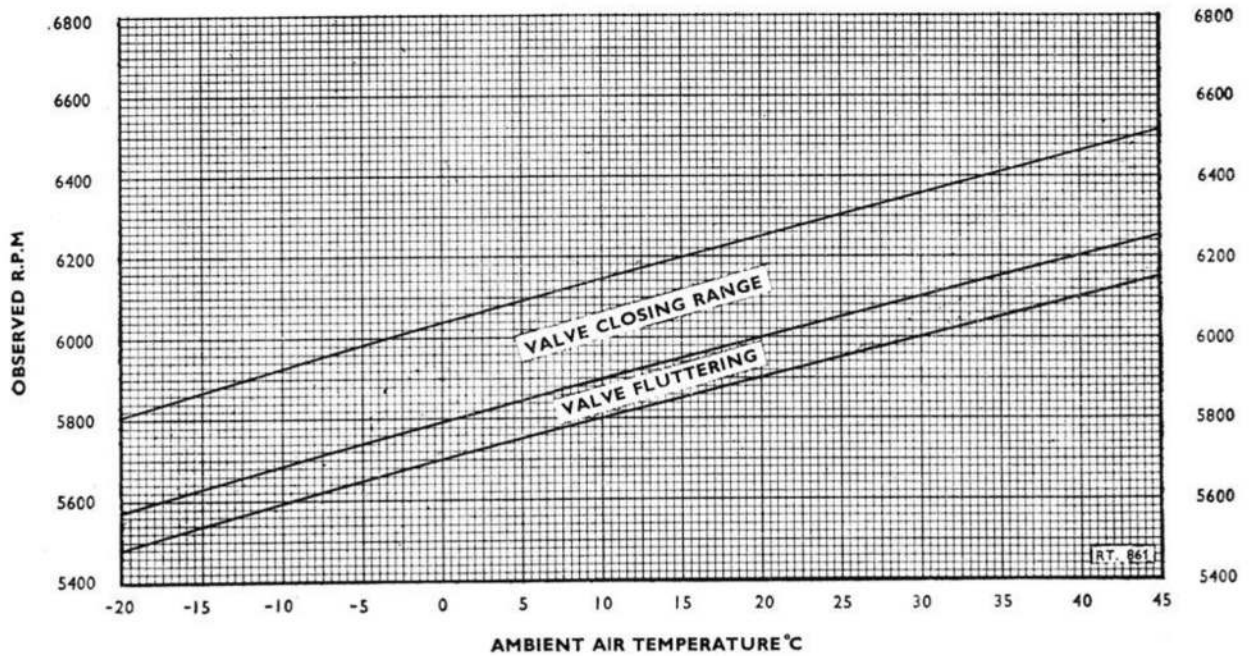
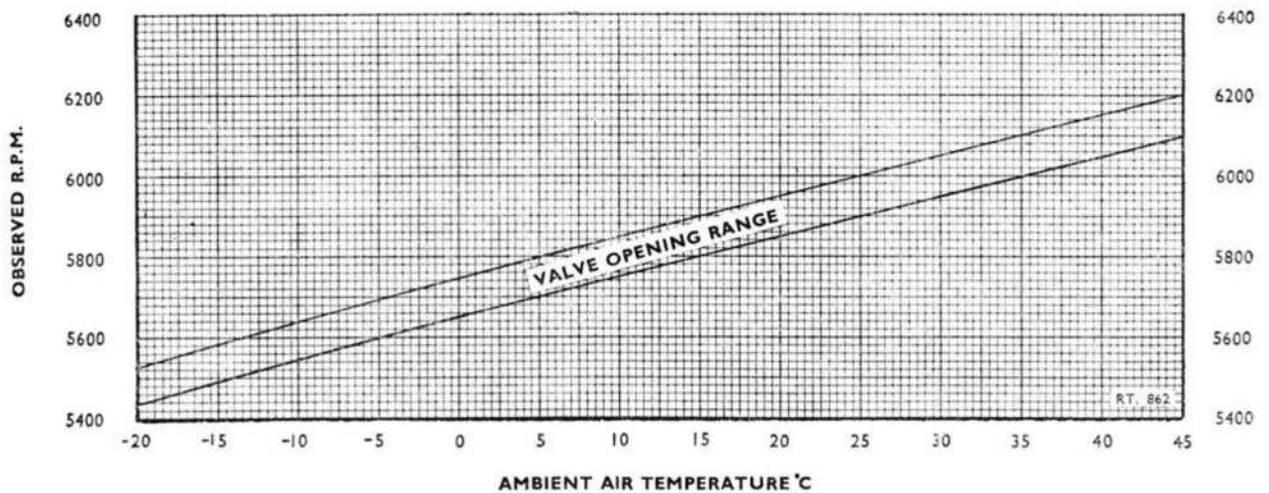

Fig. 2. R.p.m./temperature correction—Bleed valve closing
Fig. 3. R.p.m./temperature correction—Bleed valve opening
22. Check the correct functioning of the bleed valves by feeling the bleed valve ducts when slowly opening the throttle. The bleed valves should commence to 'flutter' and finally close within the ranges laid down in fig. 2. When the throttle is slowly closed the bleed valves should open as shown in fig. 3, and at not less than 50 r.p.m. below the 'flutter' point.